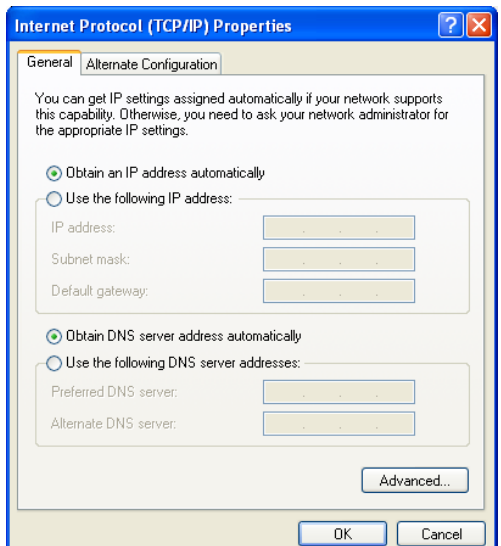

Figure 100: Internet Protocol Properties
5. Select Internet Protocol (TCP/IP) and select Properties. See Figure 100.